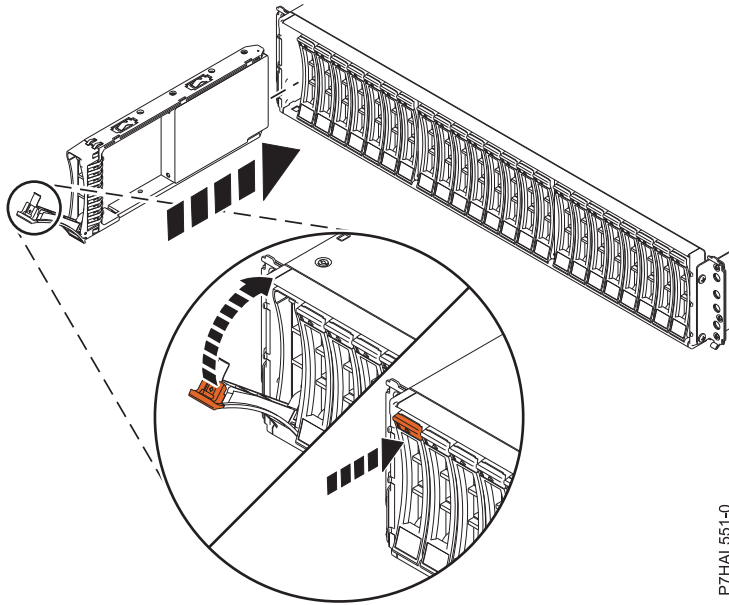

Figure 7. Installing the disk drive in the 5887
1. With the handle in the unlocked position, see Figure 7 on page 19, support the bottom of the disk unit as you align it with the guide rails in the expansion unit. Do not hold the disk unit solely by the handle.